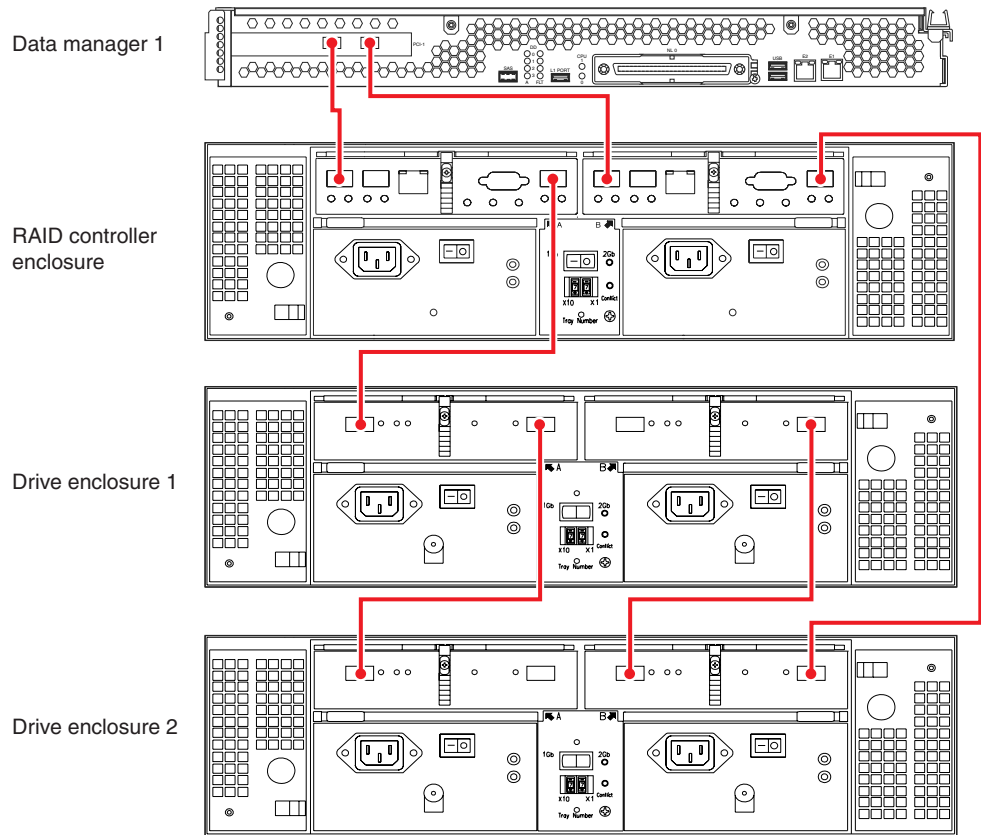

Figure 1-12 One Data Manager, Dual-Controller RAID and Two Expansion Enclosures
Use the following steps and Figure 1-12 to cable a single-module data manager to a dual controller RAID enclosure and two drive expansion enclosures.
1. Connect the Data Manager's Fibre Channel PCI card port A (blue label [1A]), to controller A's port 1 (blue label [1A]) on the controller enclosure, see Figure 1-12.